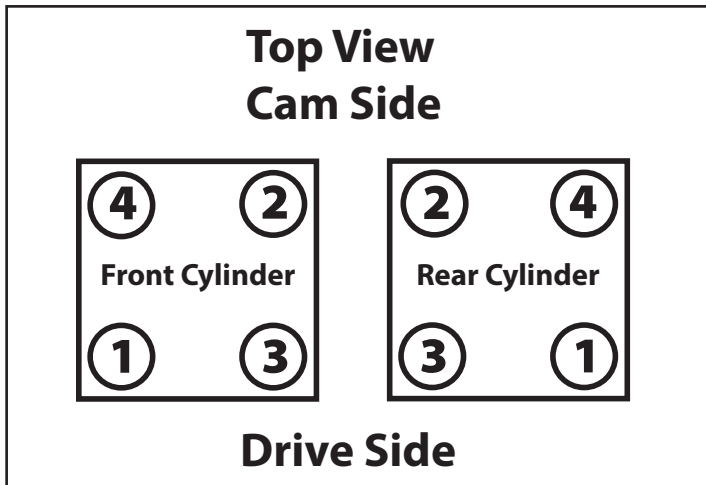

Figure 2
- i. Tighten each bolt finger tight using the sequence in **Figure 2**.
- vi. Tighten each bolt finger tight using the sequence in **Figure 2**.